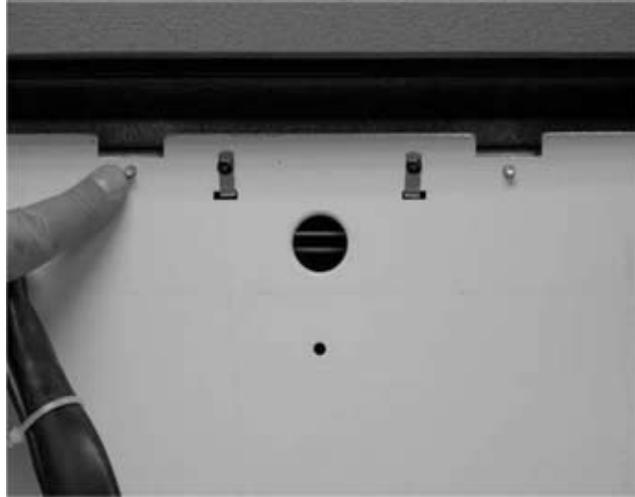

Figure 45.
- Both studs located on the back of the bracket fit into the holes left by removing previous light sockets, see Figure 45.